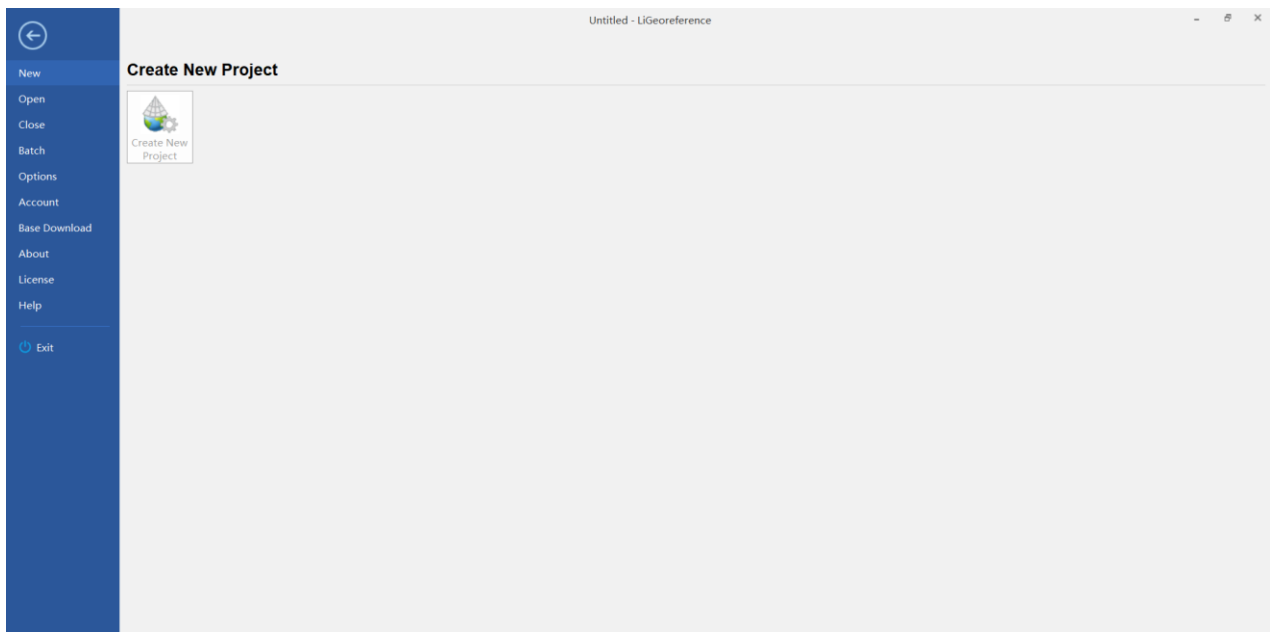

Figure 13. Open Project Interface
- Click “**File**” icon on the toolbar to open *LiGeoreference project file* (.live) through “**Browse**” icon, and users can also open the project file via “**Recent Projects**” icon which refers to history project opened before. And both of these two user-friendly selections are available for users to start project (as shown in Figure 13)